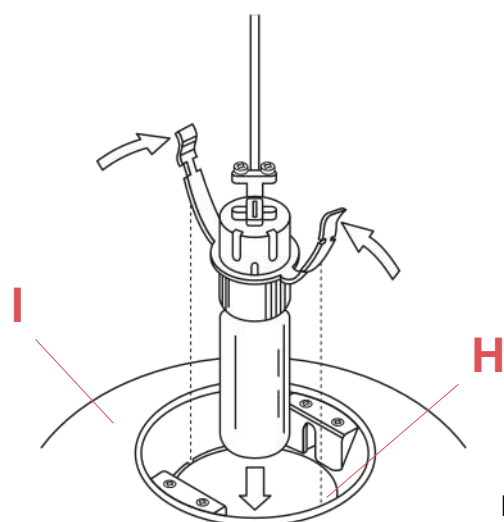

Fig.6
NOW Insert the bulb. Insert the bulb-holder in its housing (H) in the diffuser (I). (fig.6)